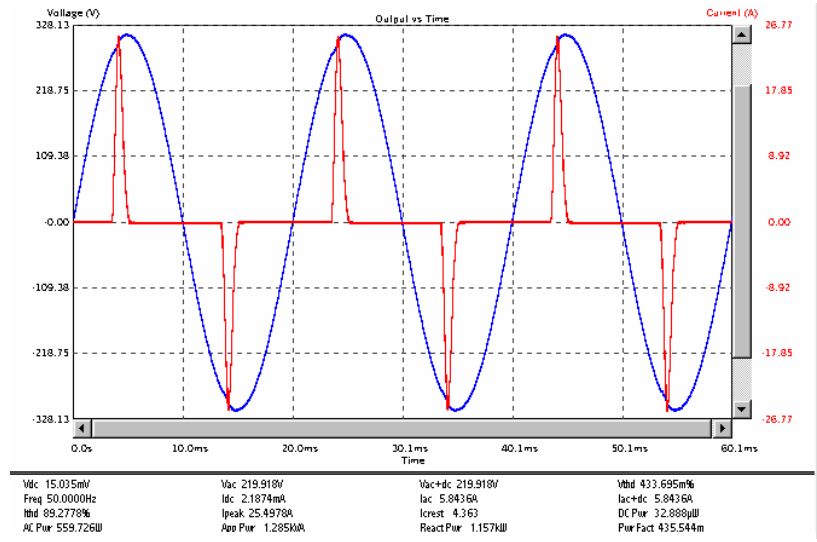

Figure 1 - Input Current of Model 'C'
Power factor is an important measure of how well the charger uses the utility power. In mathematical terms, it is the measure of ratio of 'real' power (Watts) to 'apparent' power (VA). If these two quantities are equal, it is said to have a perfect power factor equal to 1.00 or 'unity'. If the charger's input current waveform deviates in time (phase) or in shape from the sinusoidal voltage waveform (as shown in Figure 1 for a competitive high frequency charger), harmonics are created and the power factor is diminished as the apparent power increases over the real power. Only real power is useful for charging batteries— the distortion from the additional apparent power causes problems for the utility companies as well as the charger users.